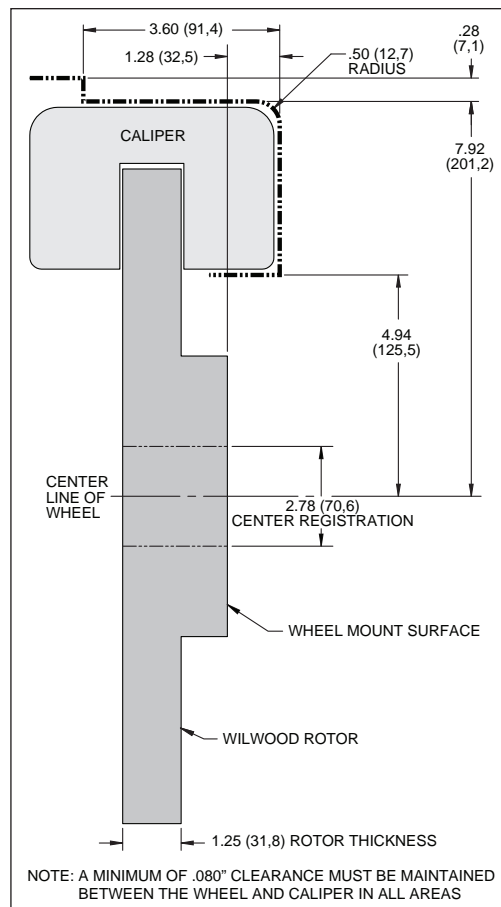

Figure 2. Wheel Clearance Diagram
- Review the wheel clearance diagram (figure 2, page 3) to verify that there is adequate clearance with the wheels you will be using with the installation.
- Make sure this is the correct kit to fit the exact make and model year of your axle. This kit is designed for direct bolt-on installation to 1997 through 2013 model year Chevrolet C5 and C6 Corvette hubs. Speciality aftermarket wheels or spacer may be required. Check wheel clearance diagram, Figure 2.
- Verify your wheel clearance using Figure 2.